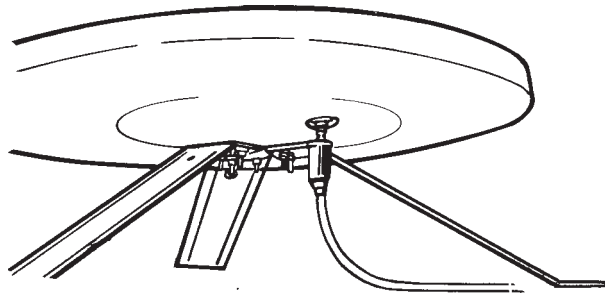

FIGURE 3
STEP 3. Attach end of coaxial download cable with boot to jack on bottom of antenna and slide boot up over boot collar. See Figure 3.